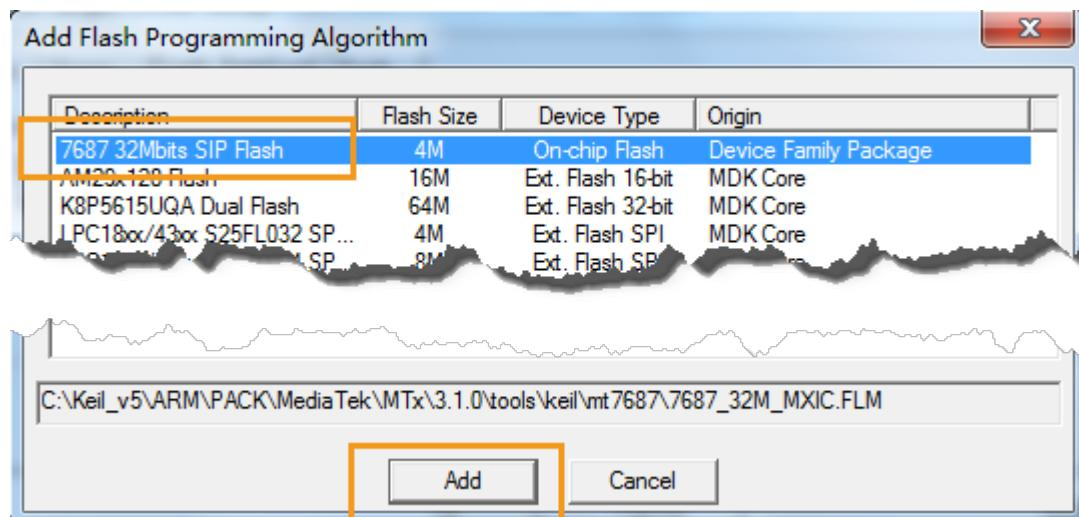

Figure 55. Add device flash programming algorithm
- 7) Click **Add** to switch to **Add Flash Programming Algorithm**, then select the **7687 32Mbits SIP Flash** and click **Add** (see Figure 55).